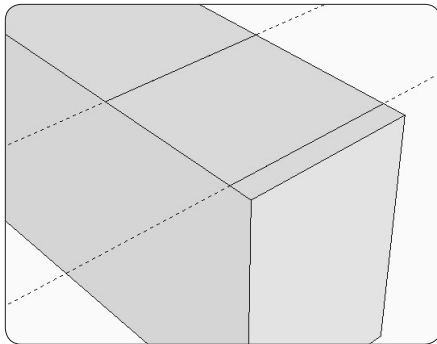

Figure 8. Lines drawn over the guide lines.
Step 5 Select the Line Tool and use it to create two lines on the top face. Draw over the two guide lines (Figure 8).